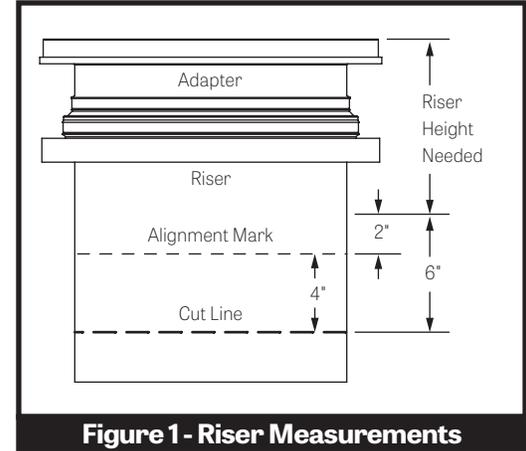
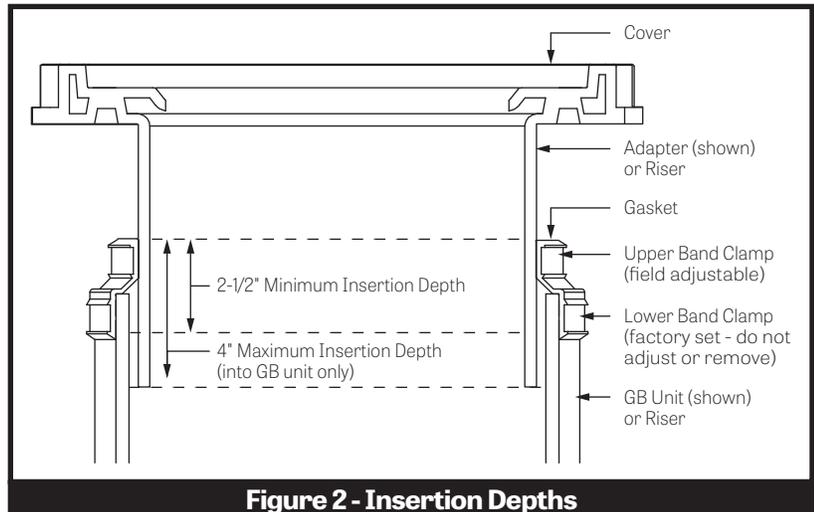

Figure 1 - Riser Measurements
Figure 2 - Insertion Depths
2. Remove covers from adapters. Remove adapters from main unit. On a level surface, pre-assemble the risers and adapters, adjusting the components upwards or downwards to achieve the riser height needed. Make sure to maintain minimum and maximum insertion depths as shown in Figure 2. If components are too long, make a circular line around the sidewall with marker and cut with a power saw. The lowest cut line on the riser assembly will be 6" beyond the riser height needed to allow for ideal insertion depth (See Figure 1). An alignment mark should be drawn 2" beyond the riser height needed which will align with the top of the base unit gasket. **DO NOT** cut the alignment mark. The Adapters and risers should sit level with each other. Tighten upper clamps to keep riser/adapter assembly from shifting. Make alignment marks on the sidewalls at the top of all riser gaskets to aid final assembly.
4. Take apart riser assembly and clean all sidewalls and insides of gaskets to remove dust/debris. Install components into the main unit starting from the lowest riser and work your way up to finished grade. Ensure that riser will not interfere with diffuser, allow min. 1" clearance. Maintain minimum and maximum insertion depths for all components (see Figure 2). Tighten Upper Clamps to specified torque after correctly positioning components. Riser assembly may need to be supported during backfill.
6. If riser height conditions change after completing above steps, there may be room for adjustment. As long as minimum and maximum insertion depths are maintained (see Figure 2), the adapters/risers can be adjusted/cut as many times as necessary. When riser system installation is complete, see Leak/Seal Testing procedure if required (pg 3 of 6).